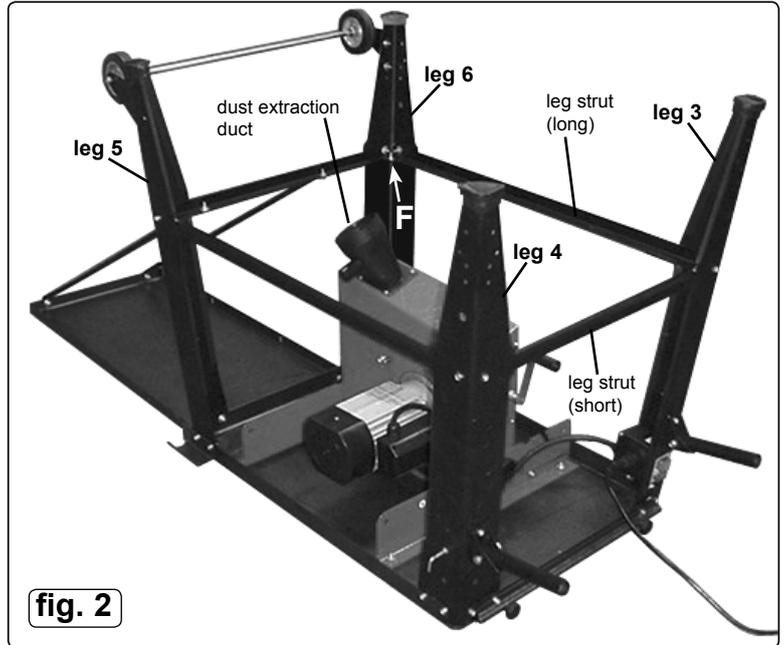

fig. 2
- 4.7** Assemble a short leg strut between legs 3 & 4 and between legs 5 & 6 using a single set of fixings at each end of each strut (see fig.2) Ensure that the broader flat surface of the struts will be facing upwards when the unit is turned the right way up.
- 4.8** Assemble a long leg strut between legs 3 & 5 and between legs 4 & 6 using a single set of fixings at each end of each strut (see fig.2) Ensure that the broader flat surface of the struts will be facing upwards when the unit is turned the right way up.
- 4.9** Where the struts overlap each other on the inside of each leg (four places) bolt them together with a single set of fixings. (See 'F' in fig.2)
- 4.10** If required, extend the length of the table by bolting the table extension to the end or side of the main table as shown in fig.2 & 6. The end extension is offset towards leg 6 and shares two of the leg fixings. Use 3 sets of fixings in positions 6A, 6B and at position 'F' as shown in fig.6.
- 4.12** Attach the appropriate pair of bracing struts (two different lengths are supplied) between the outer edge of the extension and the adjacent leg cross brace as shown in fig.2. Use a single set of fixings at each end of each strut.
- 4.15 Attach the extraction hose to the dust extraction port (part no.15). To facilitate the fitting of the hose it is recommended that the end of the hose is placed in hot water for 5 minutes to soften it temporarily. Attach the dust extraction port to the lower face of the blue box enclosing the blade using 4 bolts M4 x 12mm. See fig.2.